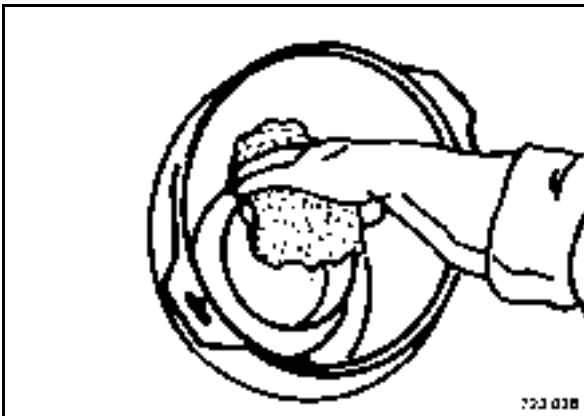

Fig. 139
- Clean the sealing face on the outlet tube (Fig. 139).